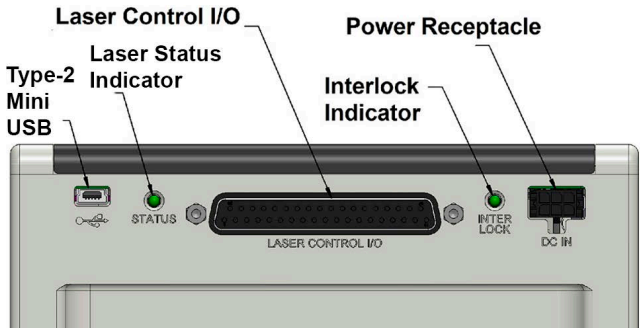

Figure 12. Connectors and Indicators on Rear CellX
1. Find the DB37 connector on the rear the CellX unit. This is identified as the **Laser Control I/O** (see Figure 12).